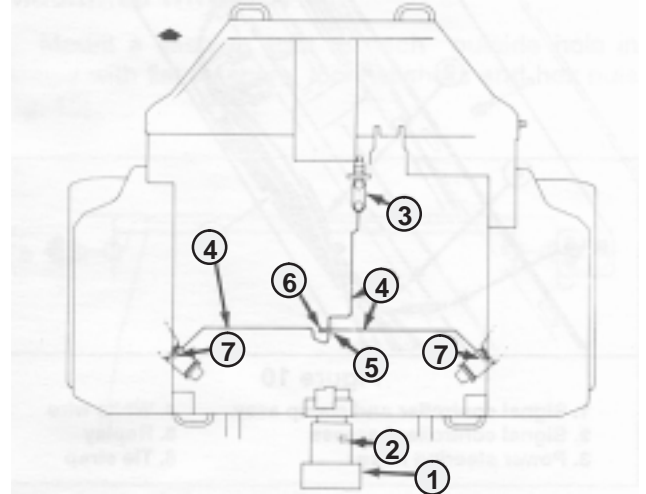

Figure 8
2. Remove and discard plug from bottom right side of pump (as viewed from operator's position) (Fig. 8).